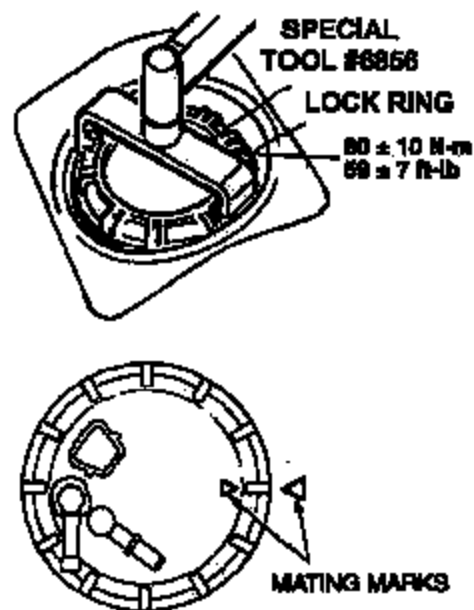

Figure 5
15. Lubricate the pump module seal with soapy water and then install the new fuel pump module into the fuel tank and align the mating marks (Figure 5).
16. Using Special Tool #6856, install the fuel pump module lock ring (Figure 5). Tighten the lock ring to 59 ft-lbs (80 N·m).